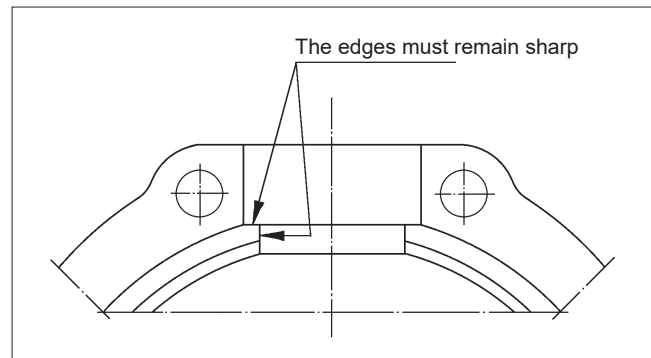

Fig. 7 Sealing surfaces
- Do not round the sharp edges at the convergence point of the body joint and bonnet sealing surfaces, as this could cause leaks. See Figure 7.